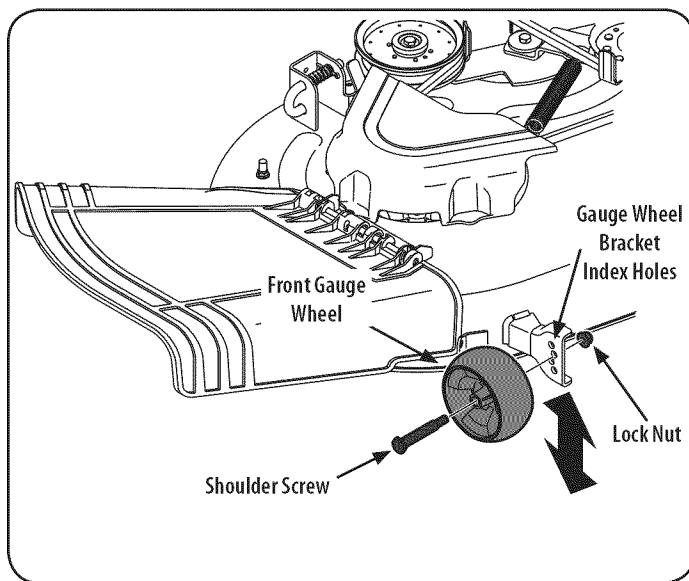

Figure 5
2. Remove the flange lock nut securing the front gauge wheel shoulder bolt to the deck. Remove the gauge wheel and shoulder bolt. Refer to Figure 5.